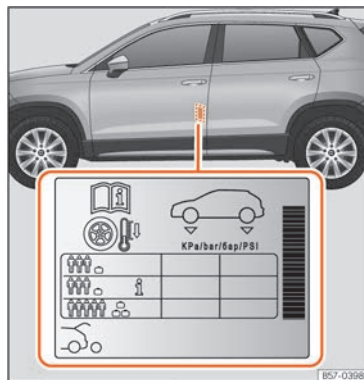

Fig. 218 Location of the tyre pressure sticker.
- Adjust tyre pressure to the load being carried by the vehicle » **Fig. 218**.
The tyre inflation pressures are listed on a sticker on the rear of the front left door frame »» Fig. 218.
Depending on the vehicle, tyre pressure can be adjusted to medium load to improve driving comfort (tyre pressure **i**) »» Fig. 218). When driving with comfort tyre pressure fuel consumption may increase slightly.
The tyre pressure must be adjusted according to the load the vehicle is carrying. If the vehicle is going to carry the maximum load, the tyre pressure should be increased to the maximum value indicated on the sticker »» Fig. 218.
In the case of a minimised temporary spare wheel (**l**), inflate to a pressure of 4.2 bar as indicated on the tyre pressure label »» Fig. 218.
ded tyre pressure is indicated on the label »» Fig. 218.
- **When the tyres are cold, tyre pressure should be that indicated on the label »» Fig. 218.**